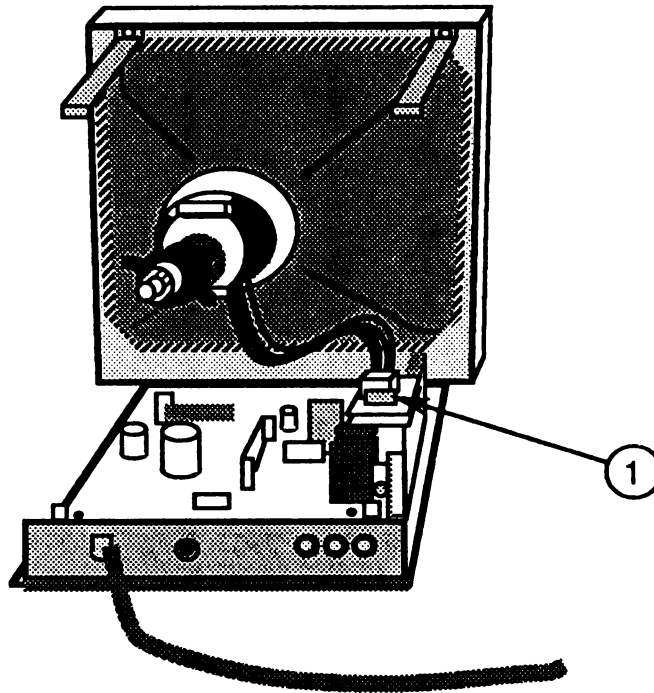

FIGURE 20
11. Disconnect the CRT connector (red/blue/yellow/green) from the power supply board (Figure 20, #1).